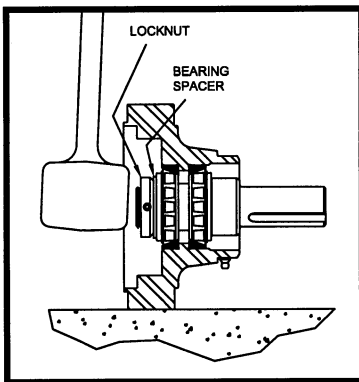

Figure 6.3.5.5 Final Assembly of Input Shaft Housing
17. Hold housing on its' side, and with a blunt instrument, rap on the inboard side of shaft. Reference Figure 6.3.5.5.